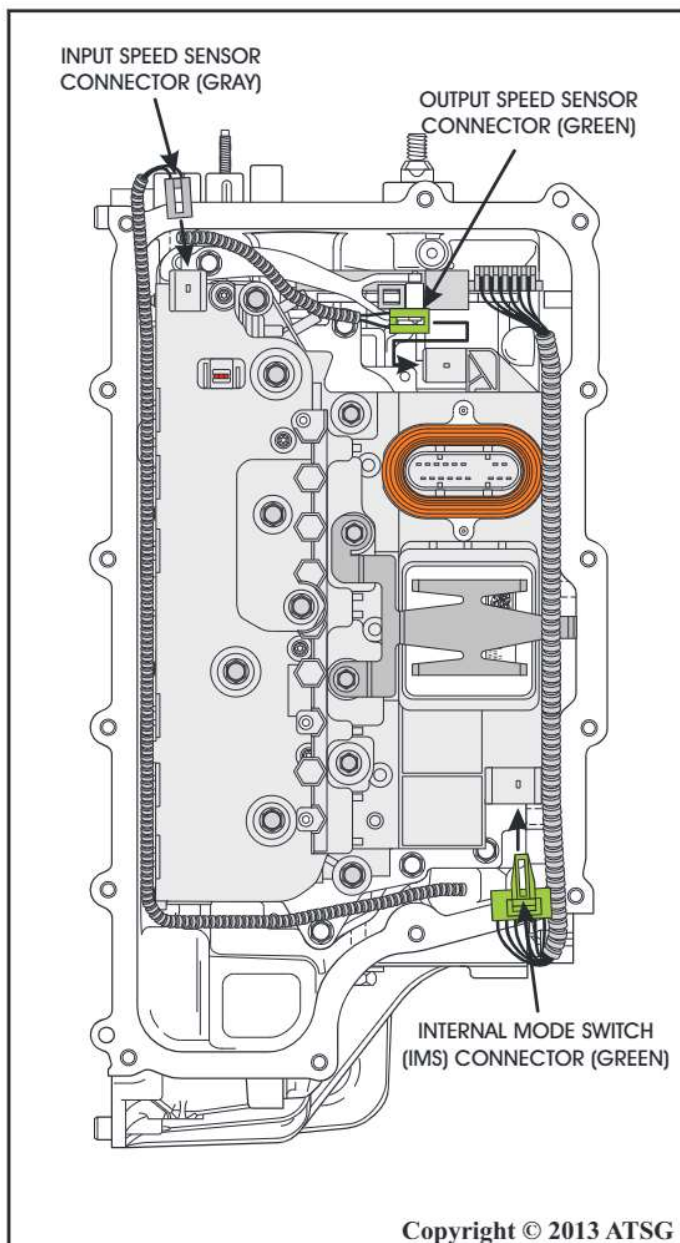

Figure 221
64. Connect output speed sensor green connector to the solenoid body & TCM assembly, as shown in Figure 221.
65. Connect input speed sensor gray connector to the solenoid body & TCM assembly, as shown in Figure 221.
66. Connect internal mode switch green connector to the solenoid body & TCM assembly, as shown in Figure 221.
Note: Route all wire harness' as shown in Figure 221.